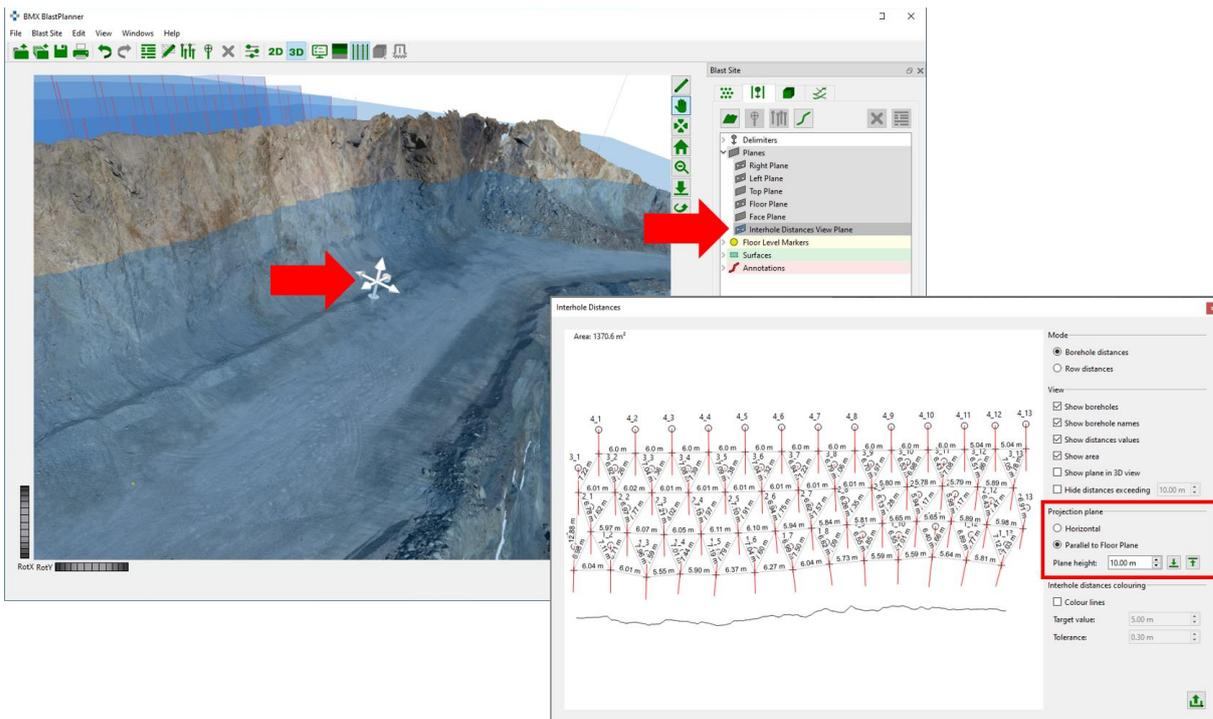

Figure 87: Projection plane visualized in the 3D viewer
The projection plane can be switched from *Horizontal* to *Parallel to Floor Plane* by using the corresponding radio buttons. The plane is moved by entering a specific height by entering the level in the “Plane height” field. The plane is moved to the toe or the collar by using the “Move to Toe” and “Move to Collar” icons. The plane of projection is visualized in the 3D viewer by activating the checkbox “Show plane in 3D view” in the *Interhole Distances* dialog or by selecting the *Interhole Distance View Plane* in the *Geometry* tab (Figure 87). The position of the projection plane can be adjusted by using the arrows in the 3D viewer.
1. Activate the checkbox “Show plane in 3D view”. The plane is highlighted and an arrow appears (Figure 87).